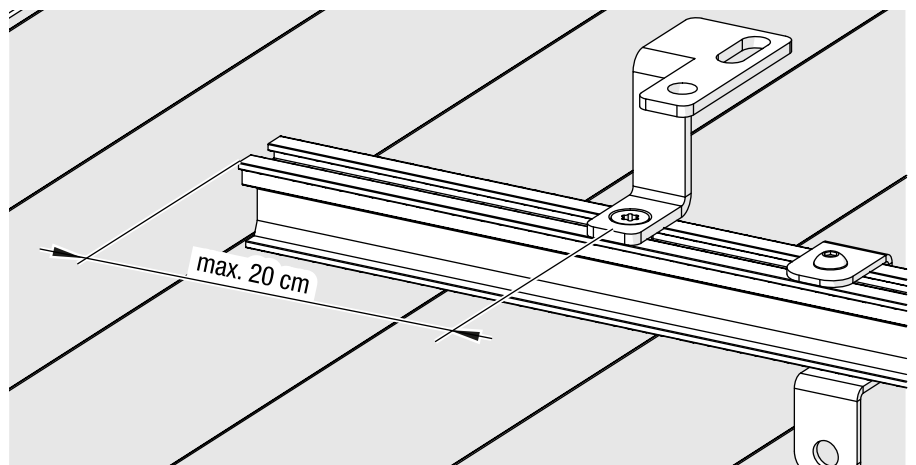

Fig. 41: Suspension distance to the end of the track (top cord operation as example)
- ➔ Attach a suspension point at a maximum distance of 20 cm from the centre of the suspension to the end of the track (see Fig. 41).